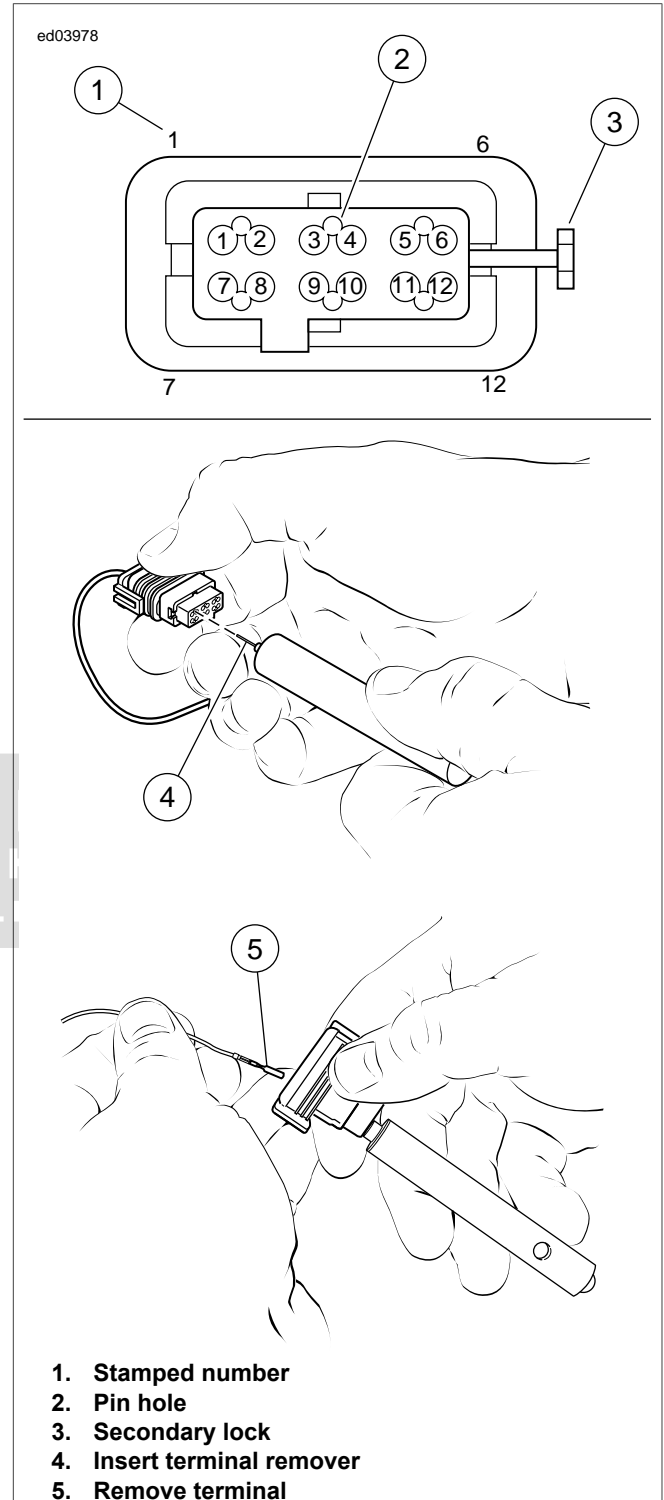

Figure B-12. Terminal Removal
1. See Figure B-12. Locate the head of the secondary lock on one side of the connector housing.